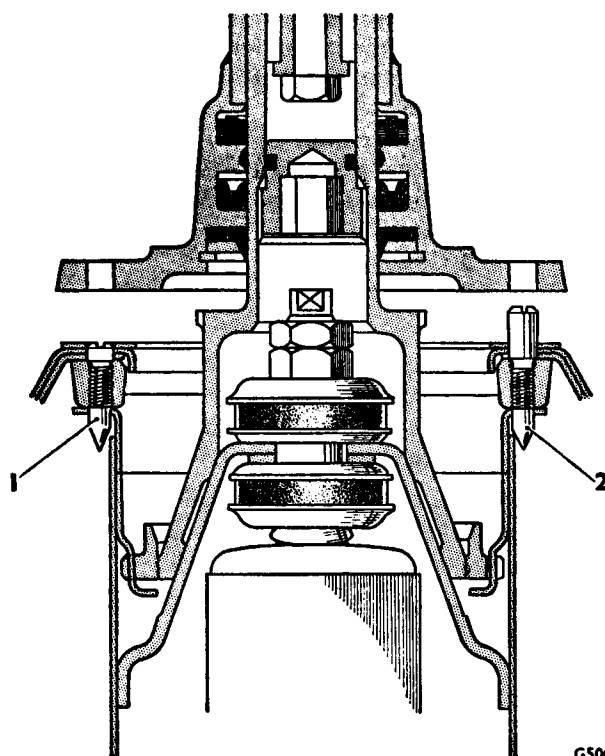

FIG. H33 METHOD OF ALIGNING HEIGHT CONTROL RAM AND SUSPENSION COMPONENTS
lock-nut must be level with the top of the damper stem thread (see Fig. H33).
2. At the upper and lower ends of the damper, fit and tighten the full nuts and lock-nuts so that the top of the lock-nut is level with the top of the damper stem thread (see Fig. H33).